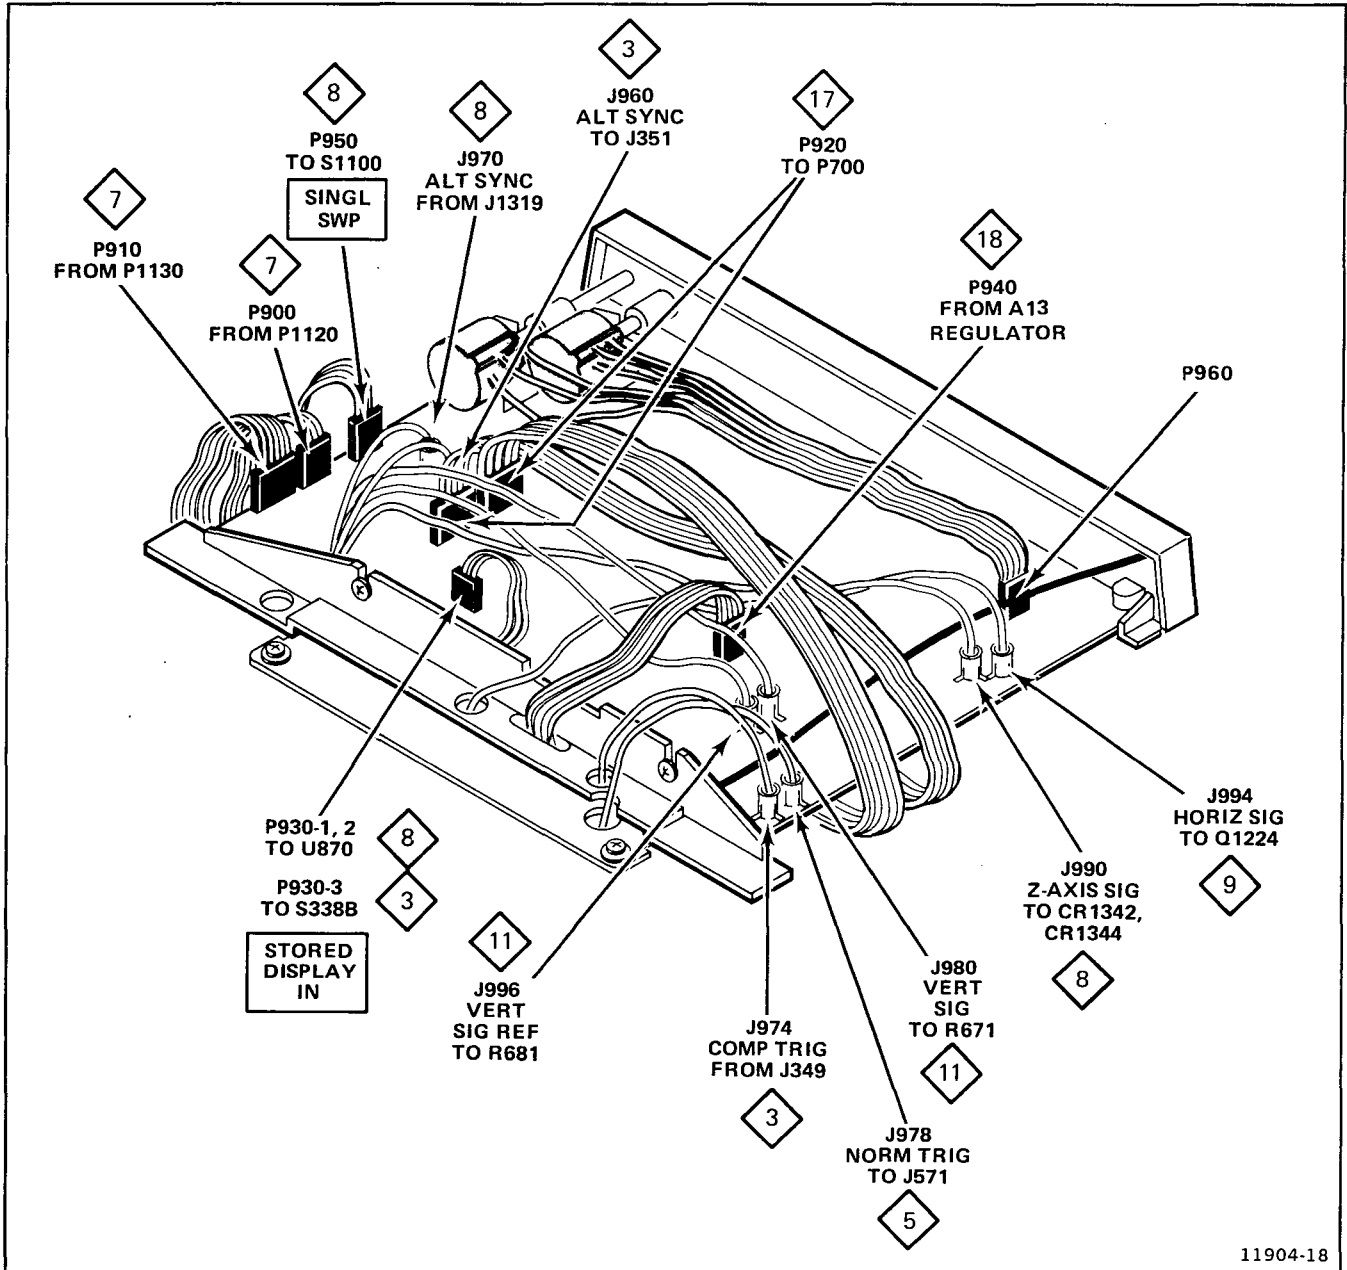

Figure 17. Location of plugs and connectors.
4. Make a note of the route that each cable takes to aid reassembly. Figure 17 may aid you.